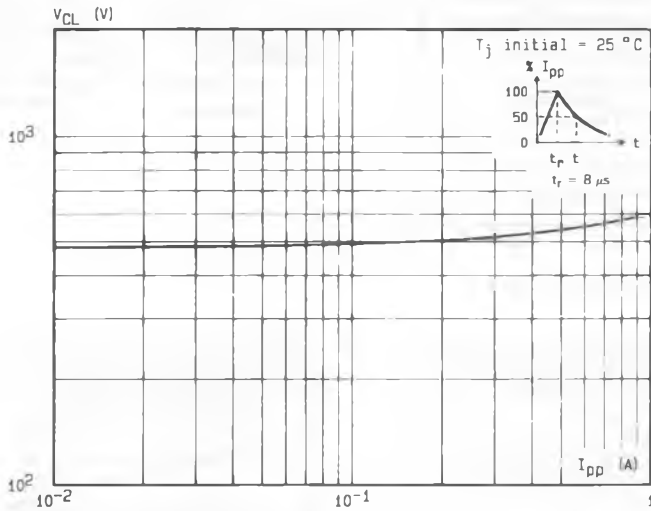

Fig.2 - Clamping voltage versus peak pulse current exponential waveform $t = 20\ \mu\text{s}$.
Note : The curves of the figure 2 are specified for a junction temperature of $25\text{ }^\circ\text{C}$ before surge. The given results may be extrapolated for other junction temperatures by using the following formula : ΔV (BR) = α_T (V (BR)) X $[T_j - 25]$ X V (BR)